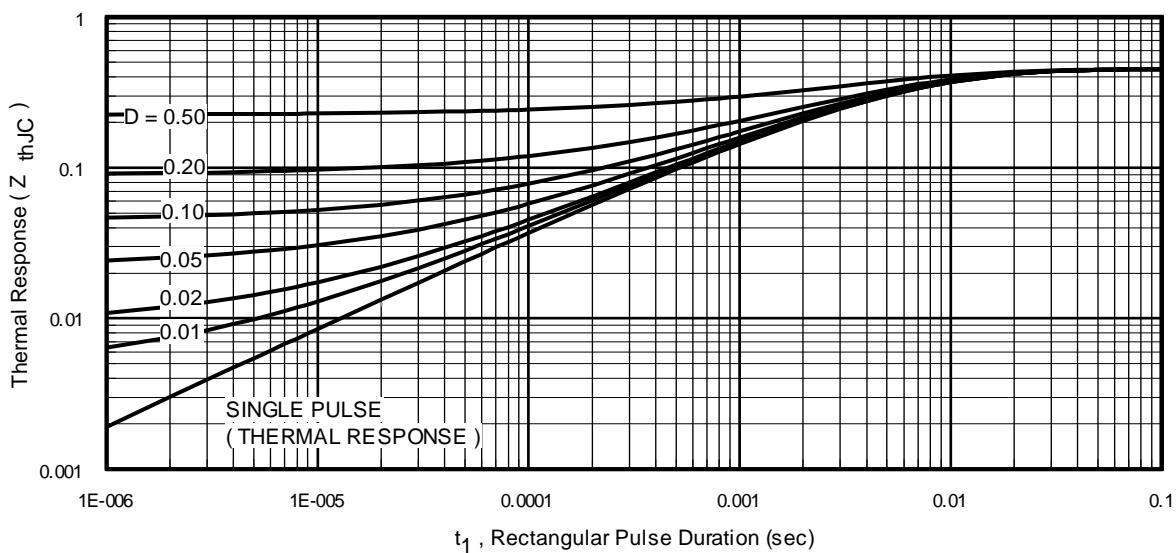
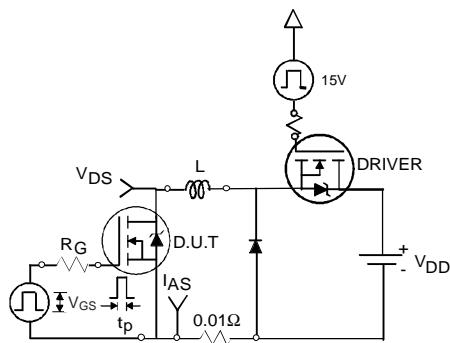

Fig 11. Maximum Effective Transient Thermal Impedance, Junction-to-Case
Fig 12a. Unclamped Inductive Test Circuit
- ① Repetitive rating; pulse width limited by max. junction temperature. (See fig. 11).
- ② Limited by $T_{J\text{max}}$, starting $T_J = 25^\circ\text{C}$, $L=0.24\text{mH}$, $R_G = 25\Omega$, $I_{AS} = 75\text{A}$, $V_{GS} = 10V$. Part not recommended for use above this value.
- ③ $I_{SD} \leq 75\text{A}$, $dI/dt \leq 220\text{A}/\mu\text{s}$, $V_{DD} \leq V_{(\text{BR})\text{DSS}}$, $T_J \leq 175^\circ\text{C}$.
- ④ Pulse width $\leq 1.0\text{ms}$; duty cycle $\leq 2\%$.
- ⑤ $C_{oss \text{ eff.}}$ is a fixed capacitance that gives the same charging time as C_{oss} while V_{DS} is rising from 0 to 80% V_{DSS} .
- ⑥ Limited by $T_{J\text{max}}$, see Fig.12a, 12b, 15, 16 for typical repetitive avalanche performance.
- ⑦ This value determined from sample failure population. 100% tested to this value in production.
- ⑧ This is applied to D²Pak, when mounted on 1" square PCB (FR-4 or G-10 Material). For recommended footprint and soldering techniques refer to application note #AN-994.
- ⑨ Max $R_{DS(\text{on})}$ for D²Pak and TO-262 (SMD) devices.
3. Equation below based on circuit and waveforms shown in Figures 12a, 12b.
- $Z_{thJC}(D, t_{av})$ = Transient thermal resistance, see figure 11)